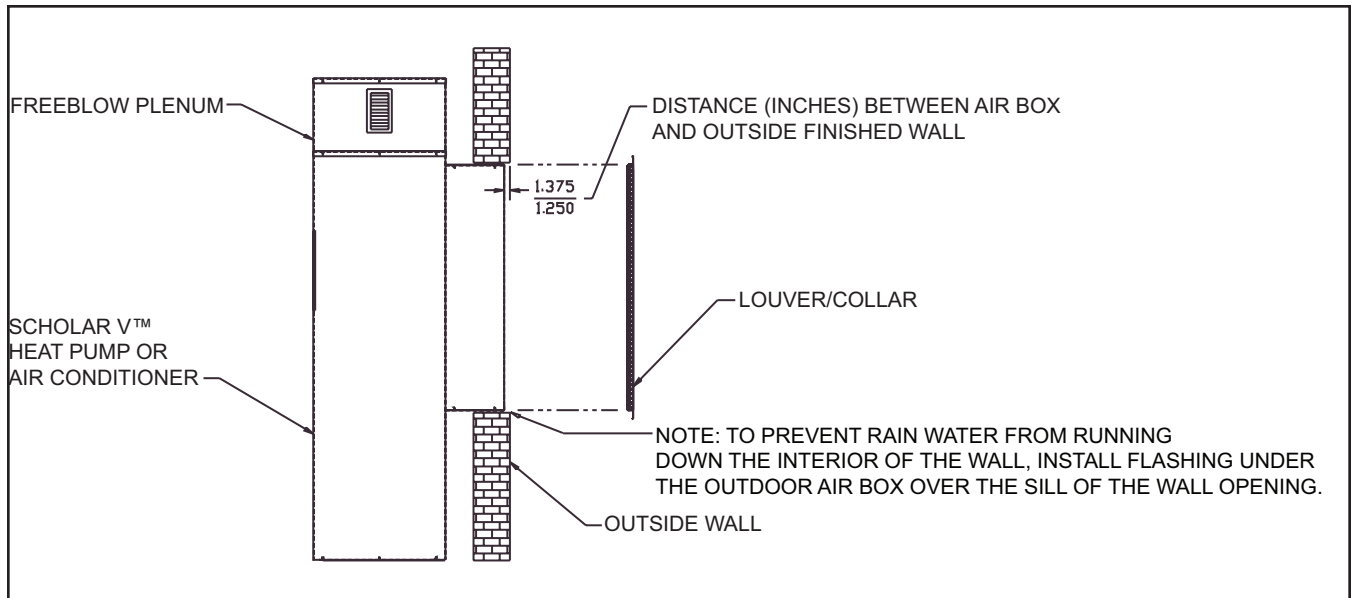
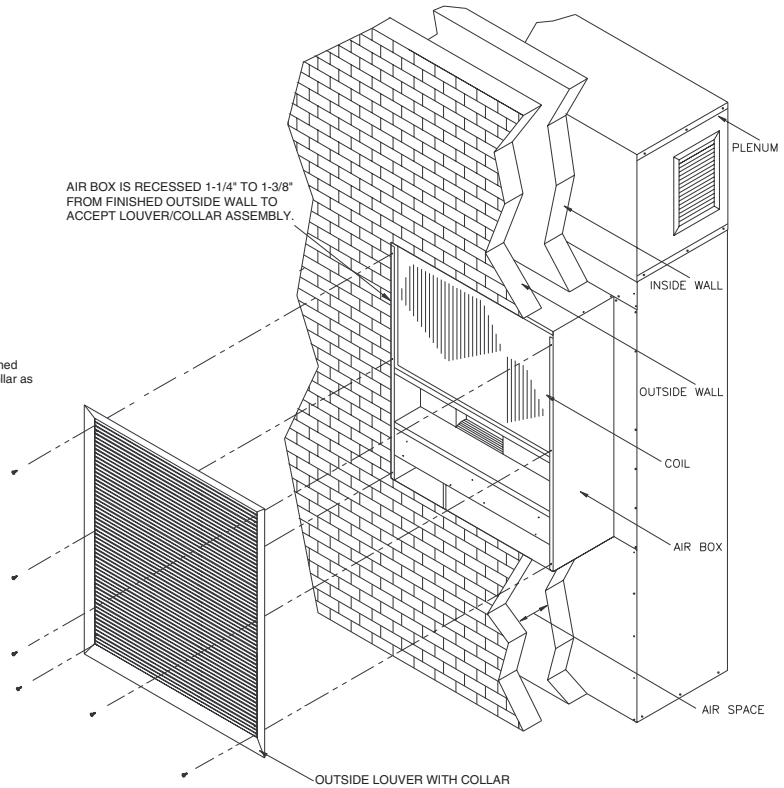

Figure 1. Dimension between Scholar 2.0 Air Box and Finished Outside Wall for Outdoor Louver/Collar Assembly Installation.
Figure 2. Installation of Louver/Collar Assembly to Air Box
The Scholar 2.0 heat pump or air conditioner should be installed following the instructions in this manual. After installation, the Scholar 2.0 air box should be from 1-1/4" to 1-3/8" from the outside surface of the finished wall, as shown in Figure 1.
1. The louver/collar assembly is **fastened directly to the air box** as shown in Figure 2, with six screws supplied with the louver/collar. Prior to installing the louver, apply caulk around the perimeter flange of the outdoor air box. Be careful not to block the weep holes on the bottom flange. To ensure proper fit up of the collar to the outside wall surface, be sure the unit is positioned as shown in Figure 1. After the six screws have been installed and appropriately tightened (do not over torque), the color coordinated screw caps are snapped into place to cover the screw fastener heads. Provide a water seal around the top & both sides edges of the collar/wall interface, by applying an even bead of sealant caulk at the collar/wall interface.
2. The louver/collar assembly is **fastened directly to the outside wall**, as shown in Figure 2.
The louver itself may be fastened to the air box as shown in Figure 2.
The collar itself may be fastened to the outside wall by following the instructions in Figure 2.